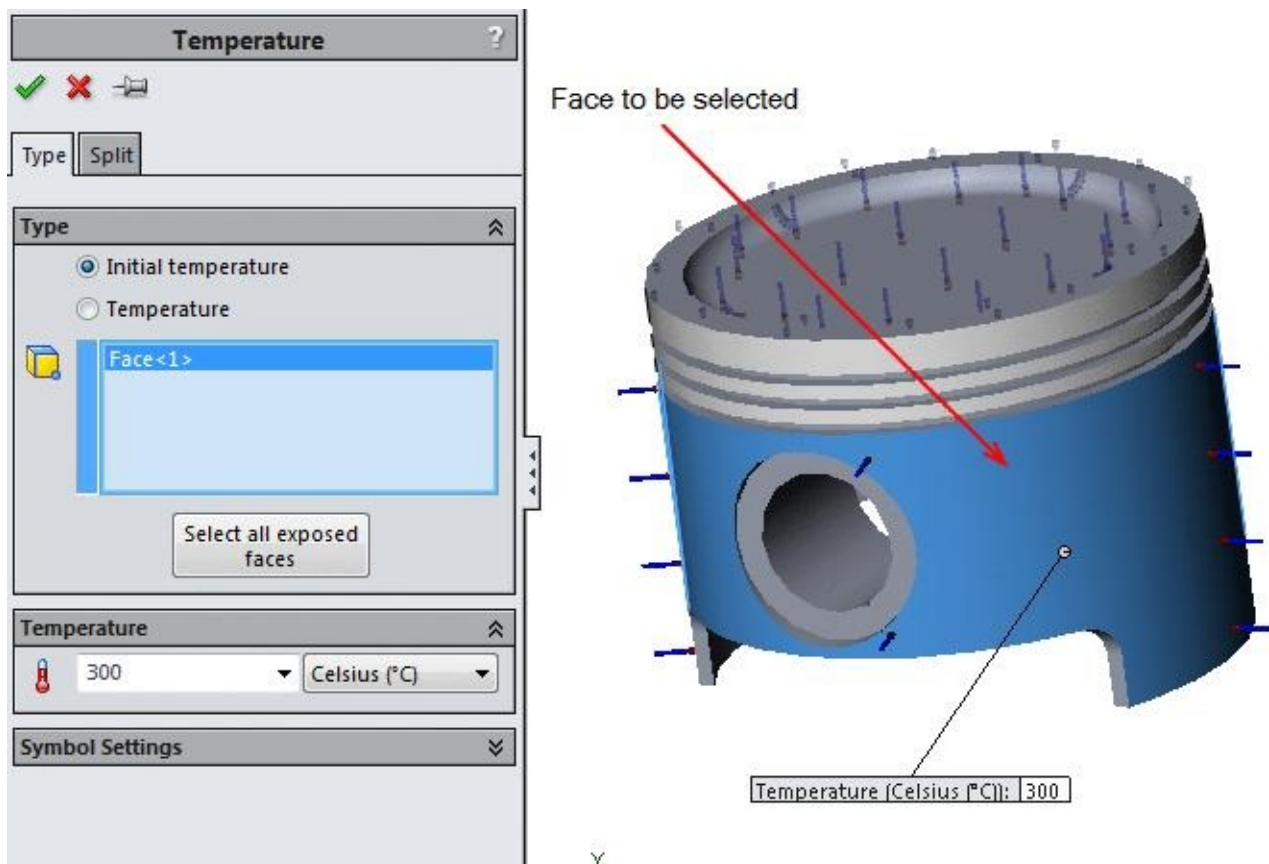

Figure-25. Faces to be selected for initial temperature
- Select the **Initial Temperature** radio button and select the faces as shown in Figure-25.